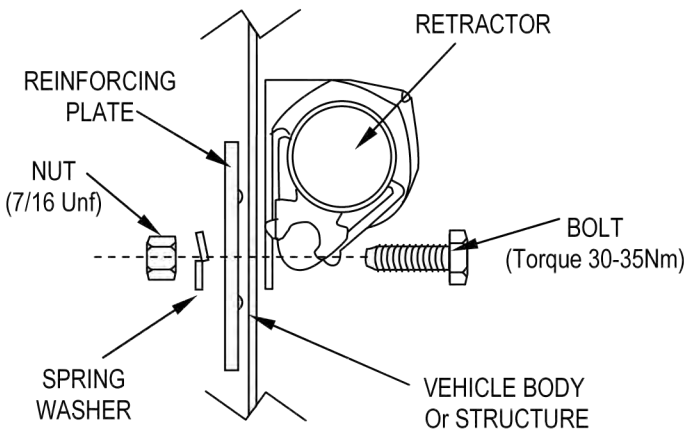

FIGURE 2
- Use the reinforcing plate to attach the retractor as shown in Fig. 2.